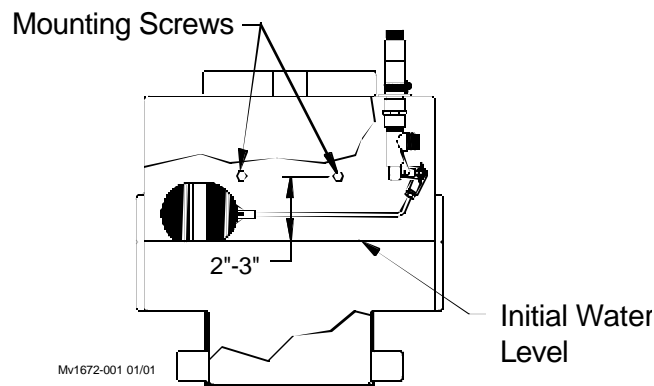

Figure 1. Initial Water Level
- Set the initial water level 2" to 3" (51mm to 76mm) below the Mounting Screws in the back of the Sump (See Figure 1).